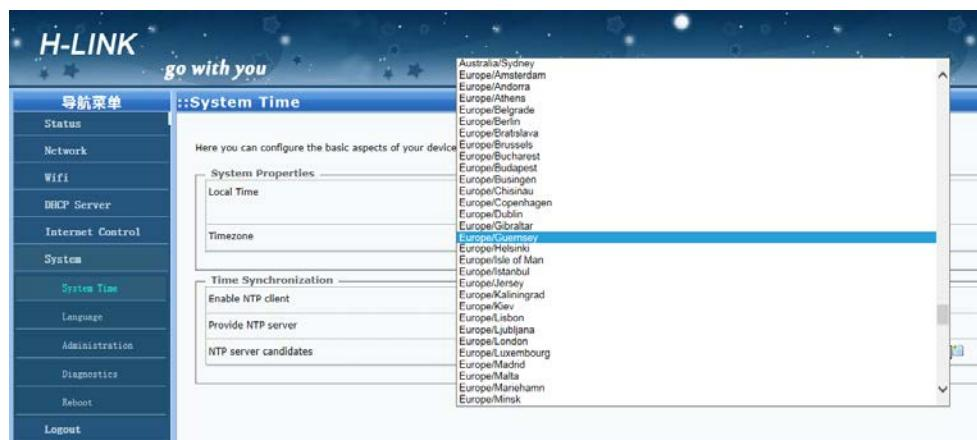

Figure 3.1.2 Select Time Zone
- 2) Select Time Zone: Click "System" > "System Time", select the corresponding Time Zone shown as the Figure3.1.2, then click the "Save & Apply".